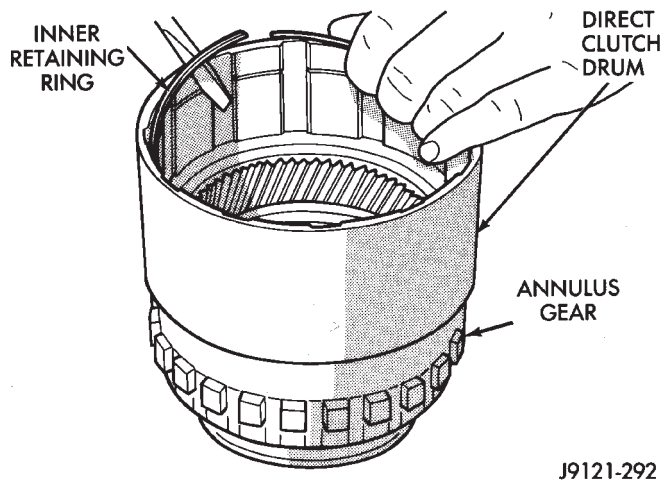

Fig. 30 Removing Clutch Drum Inner Retaining Ring
(21) Remove direct clutch drum rear retaining ring (Fig. 30).